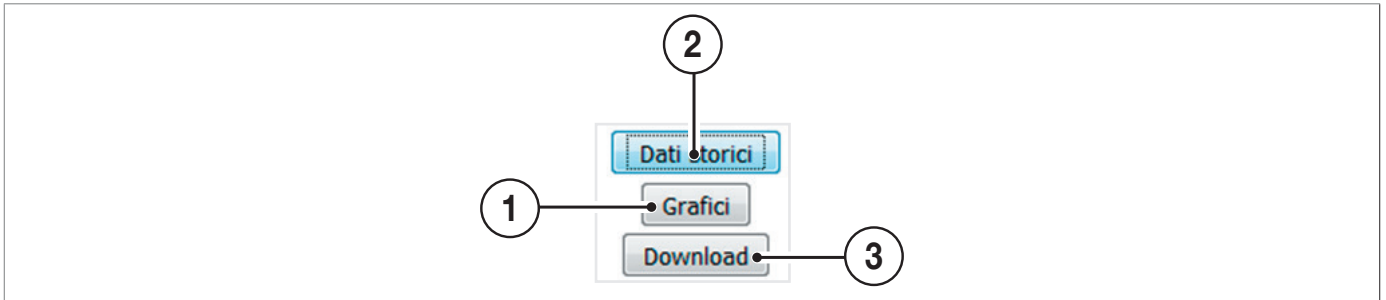

Fig. 5.14. Options for viewing logged data
In “Logged data” you can view the logged data in graphic format (1) or text format (2) and download it (3), choosing one of the three available submenus (Fig. 5.14):